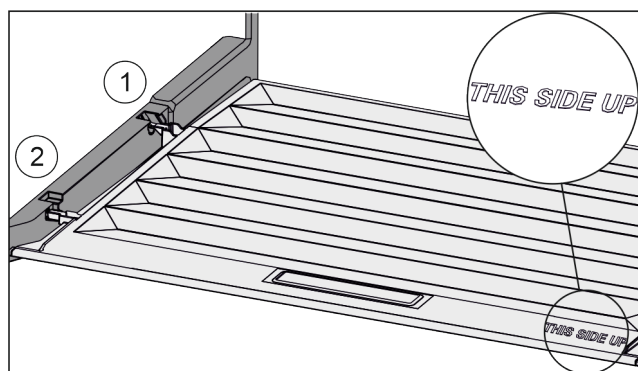

Fig. 26
- ▶ Insert the lip of the cover over the opening of the rear bracket Fig. 26 (1) and click into place Fig. 26 (2).